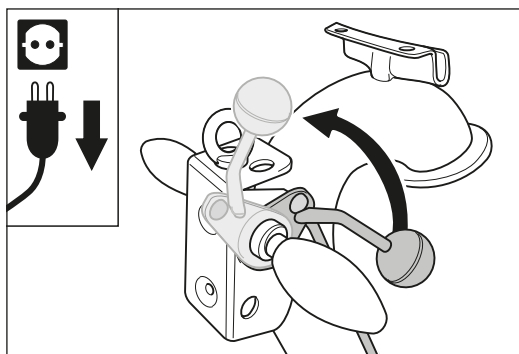

Fig. 62 Lift the sanding drum off the floor by turning the lowering lever at the handle upwards.
- 4 Lift the sanding drum off the floor by turning the lowering lever at the handle upwards (fig. 62).